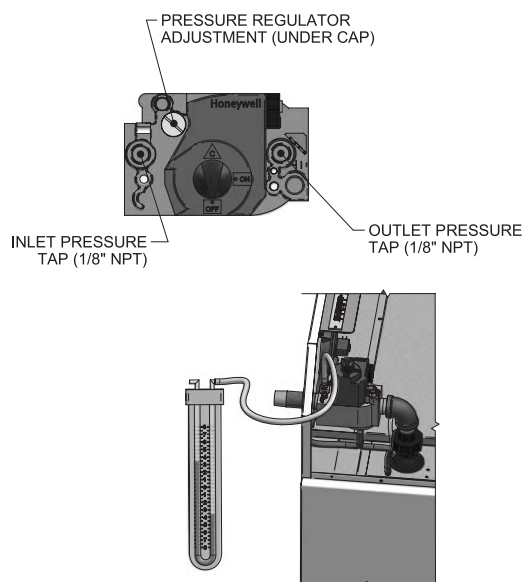

Figure 3-2\_Manifold Gas Pressure Measurement
10. Remove the 1/8" hex plug, located on the "outlet" side of the gas valve and install a fitting suitable to connect to a manometer or magnahelic gauge (see FIG. 3-2). Minimum range of scale should be up to 5" w.c. for natural gas and 10" w.c. for propane gas.
17. If adjustment is necessary, remove the regulator cover screw on the gas valve (FIG. 3-2).